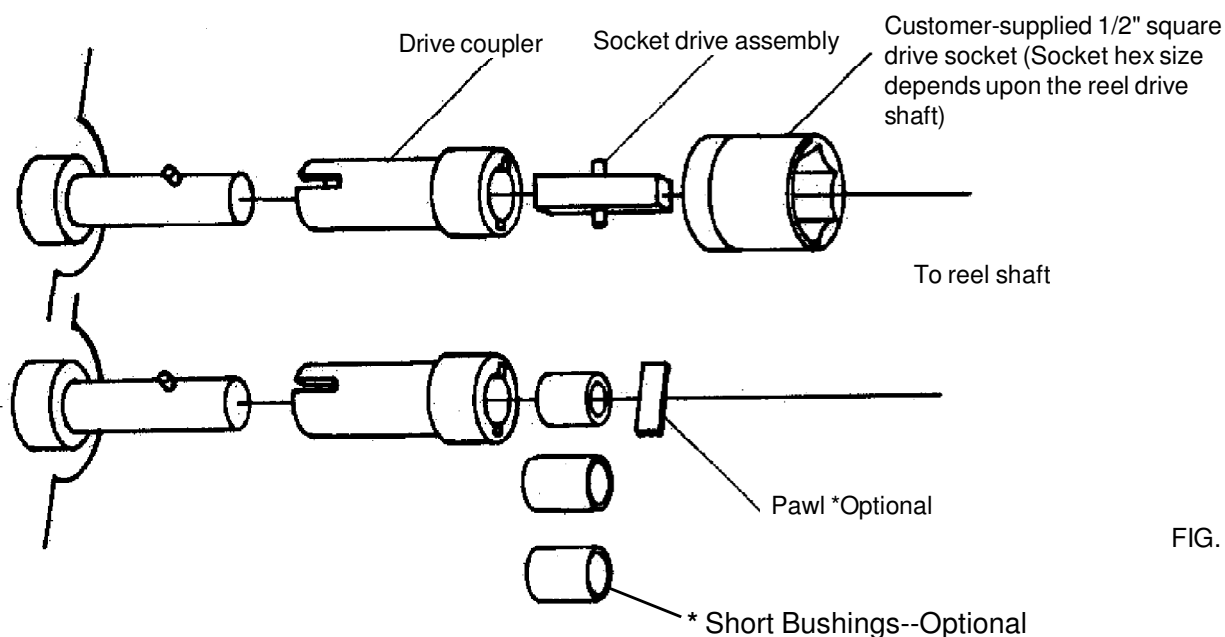

FIG. 3
3. Connect the drive coupler, socket drive assembly, and any other drive sockets or special adapters necessary to drive the mower reel, according to the order shown in FIG. 3.